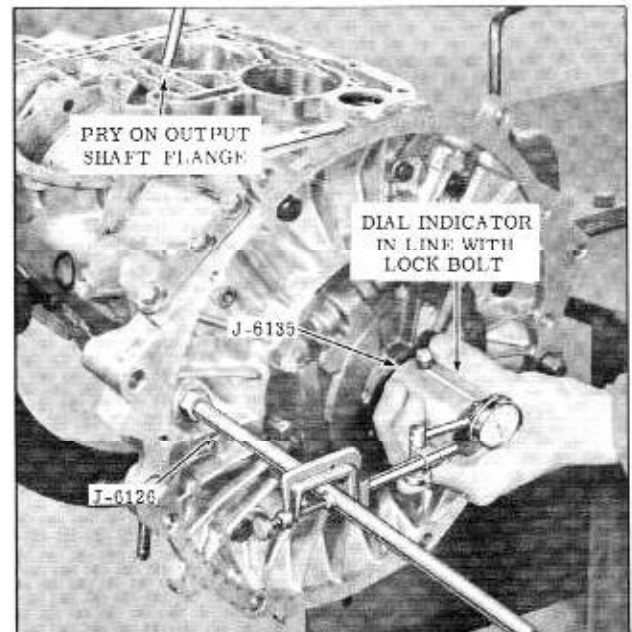

Fig. 3-126 Checking End Play
6. At the same time move tool handle and record end play. (Fig. 3-126)